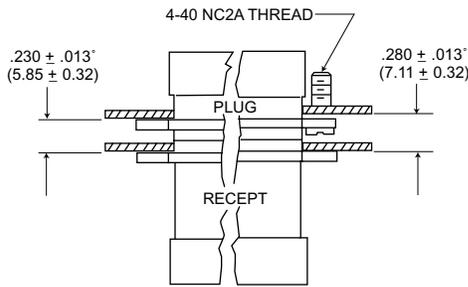

Figure 5
5. With plug assembly front mounted and receptacle assembly rear mounted, use hardware from Figures 5 and 6.